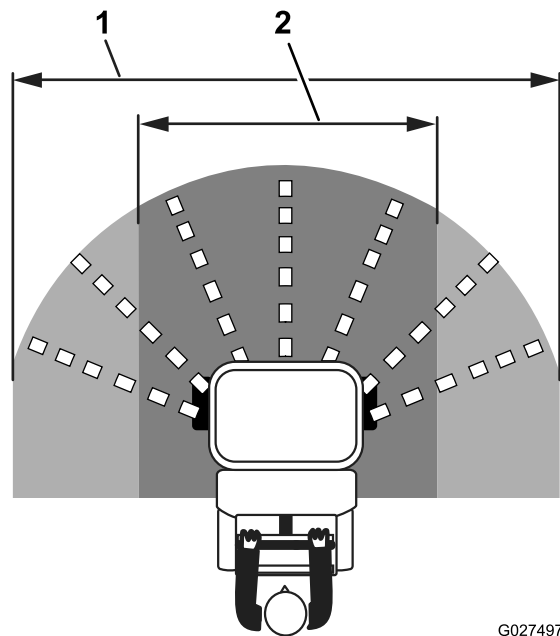

Figure 36
- Open the either the narrow or wide impeller-gate lever to begin spreading (Figure 36).